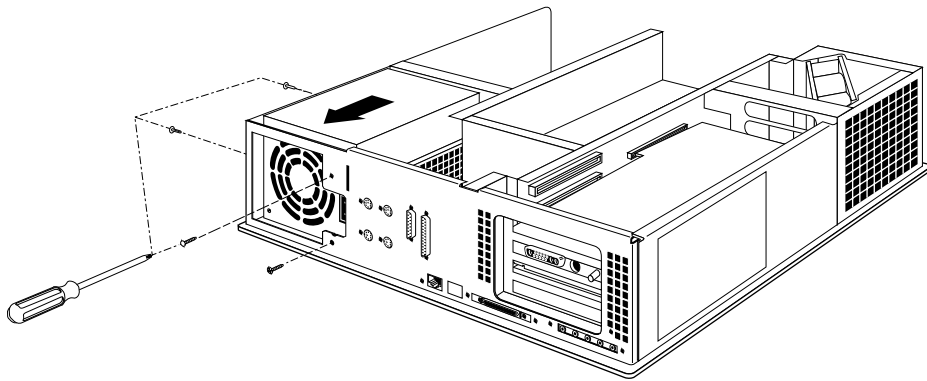

Figure 8-27 Installing the Power Supply
9. Install the new power supply, as shown in Figure 8-27.
- Replace the four screws that hold the power supply, in the locations shown in Figure 8-27.